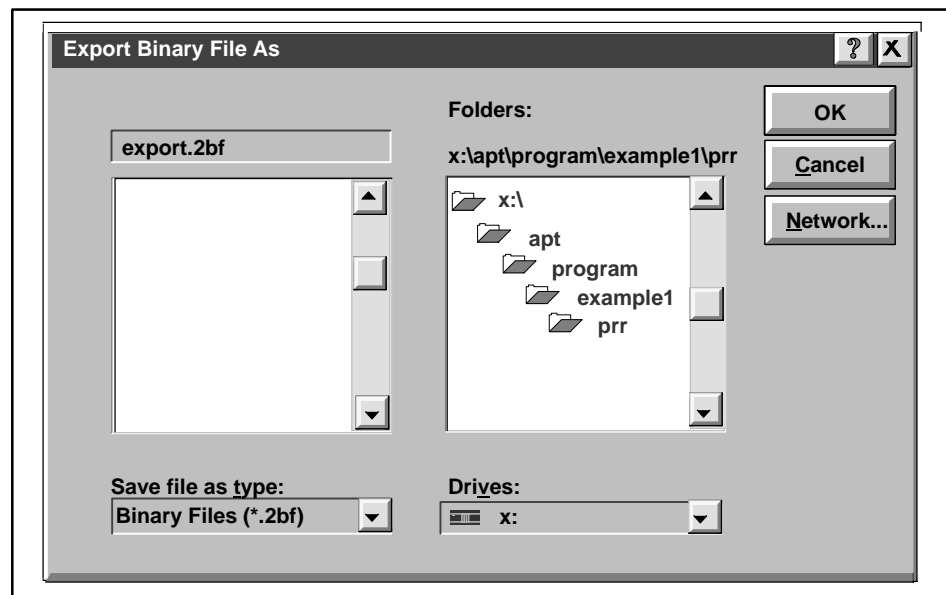

Figure 9-10 Selecting a Directory Path for the Export File
2. Change the file name to **export.2bf** (Figure 9-10).